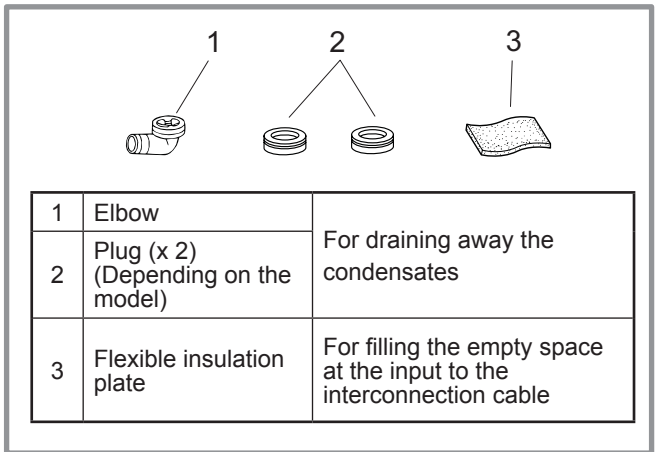

figure 9 - Accessories provided with the outdoor unit
- Accessories provided with the outdoor unit (figure 9).